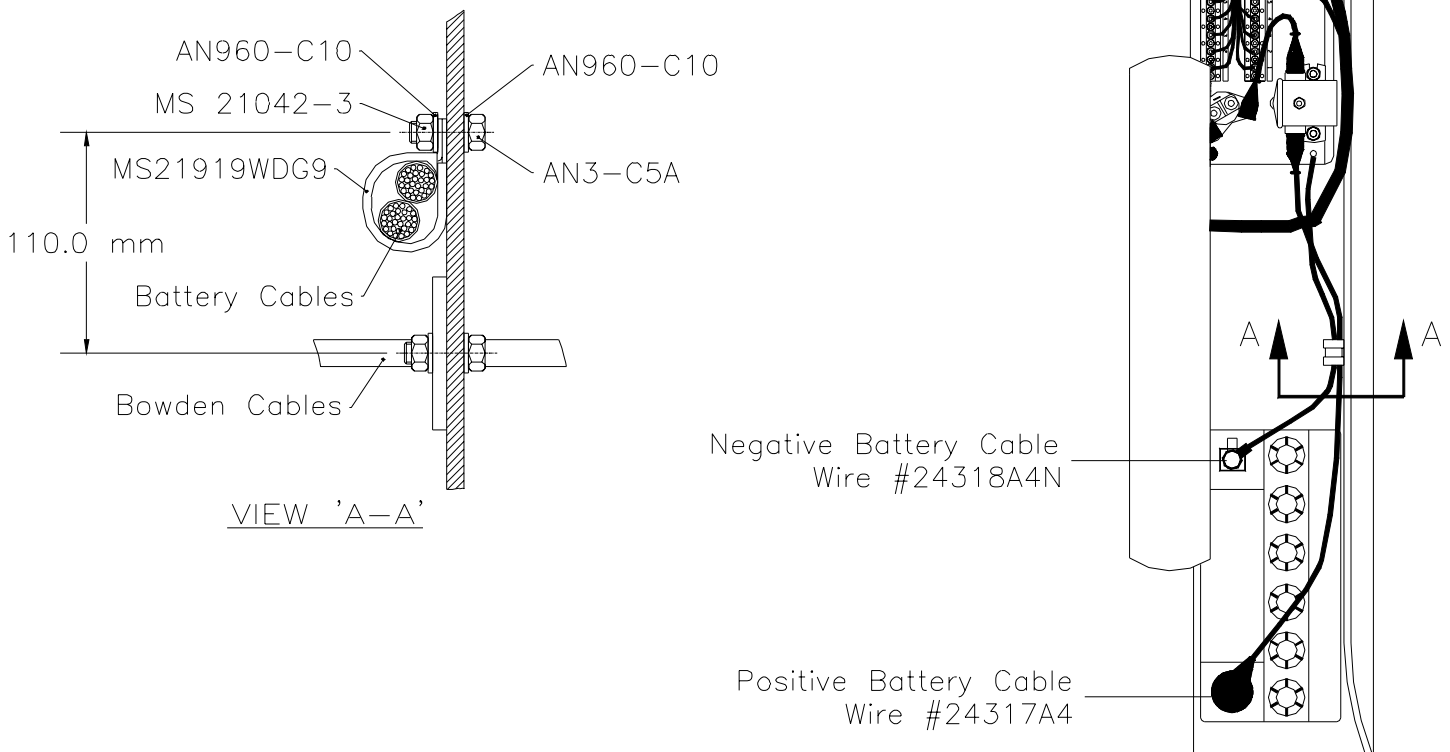

Figure 2.
- 10.9 Put the wires into the clamp and install the clamp as shown in figure 2 for Rotax 912 F3 installations, or figure 3 for Rotax 912 A3 installations.